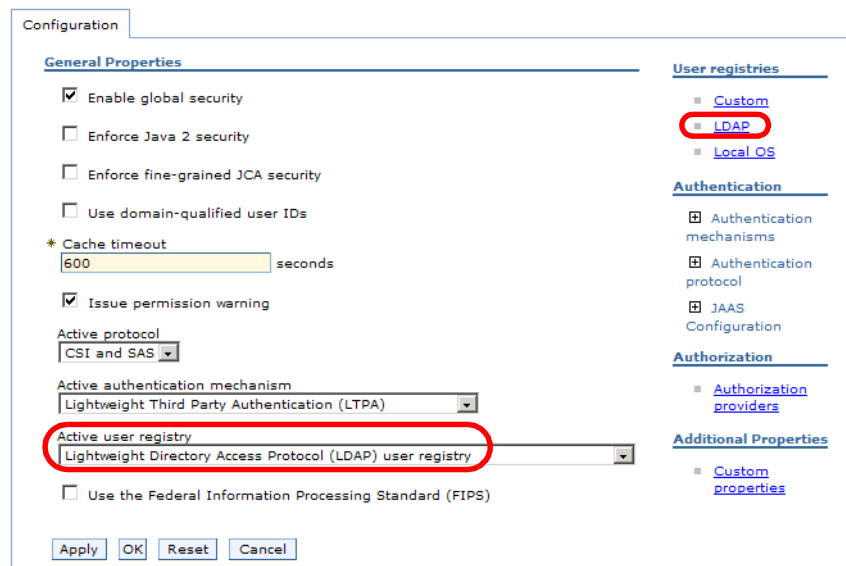

Figure 11-28 Global security using LDAP
- ▶ Back in Global security select *Lightweight Directory Access Protocol (LDAP) user registry* (Figure 11-28).